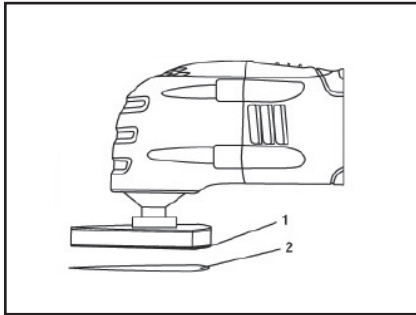

Fig. 3
1. Install the hook & loop sanding pad (1) onto the tool (Fig. 3)
2. Firmly press the sandpaper (2) onto the hook & loop pad.
2. Install the sandpaper on the sanding pad as outlined in Fig. 3